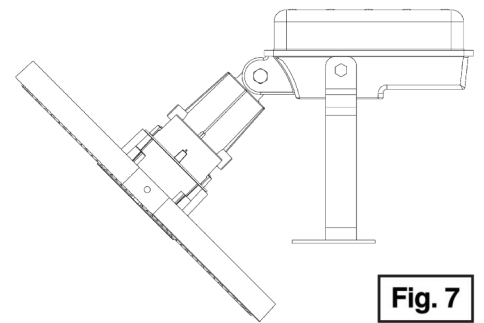

Fig. 7
- 3.) To adjust the luminaire to the desired angle, loosen the hex head bolt in the center of the fixture connecting the junction box and light engine. Adjust the light engine to the desired angle, and retighten the bolt (See **Fig. 7**).